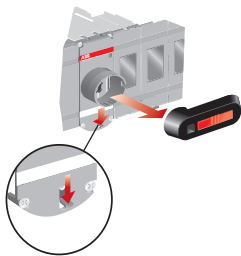

Figure 3.3 Remove the handle
- 1. If the handle is inserted, remove the handle from the switch, as shown in Figure 3.3.
- 1. If the handle is inserted, remove it from the switch, as shown in Figure 3.3.